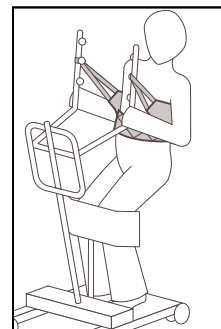

Figure 5
- Lean back into the Invacare Stand Assist sling. **Figure 5.**